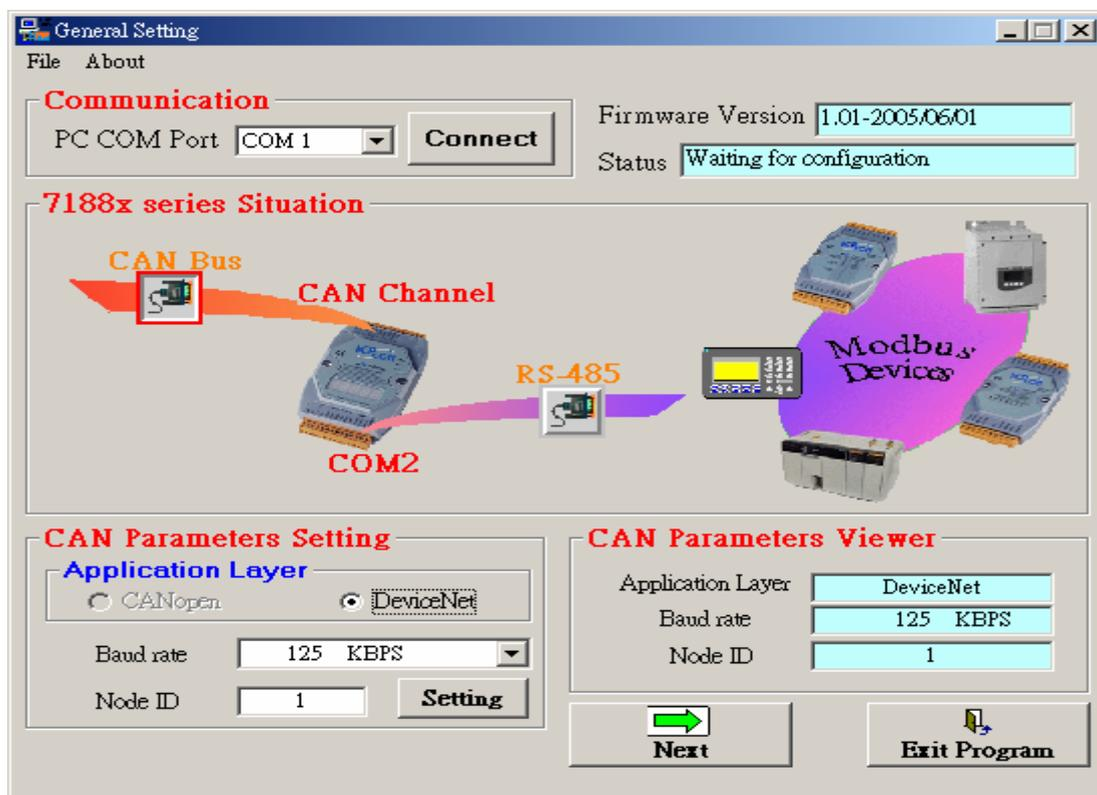

Figure 6-19. "General Setting"
Step 5: After reading parameters from EEPROM, a related information dialog box will be displayed as figure 6-19.